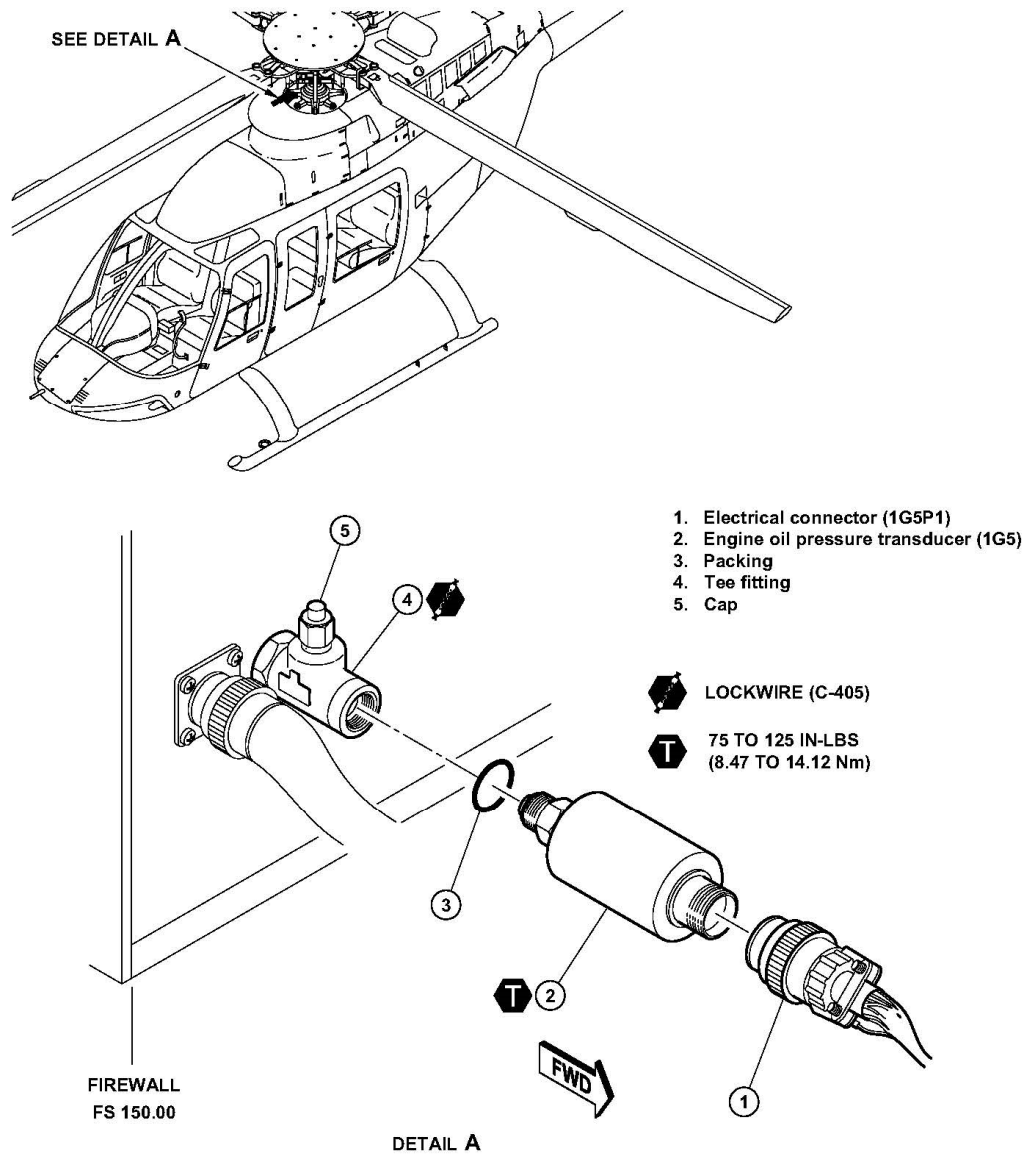

Figure 95-26: Engine Oil Pressure Transducer - Removal and Installation
2. Lubricate the packing (3, Figure 95-26) with engine oil.
4. Install the packing (3) on the engine oil pressure transducer (4962-A11) (2).
5. Install the engine oil pressure transducer (4962-A11) (2) on the tee fitting (4). Make sure that the engine oil pressure transducer is correctly installed and tightened.
6. Safety the engine oil pressure transducer (4962-A11) (2) to the tee fitting (4) with lockwire (C-405).
7. Connect the electrical connector (P11) (1) to the engine oil pressure transducer (4962-A11) (2).